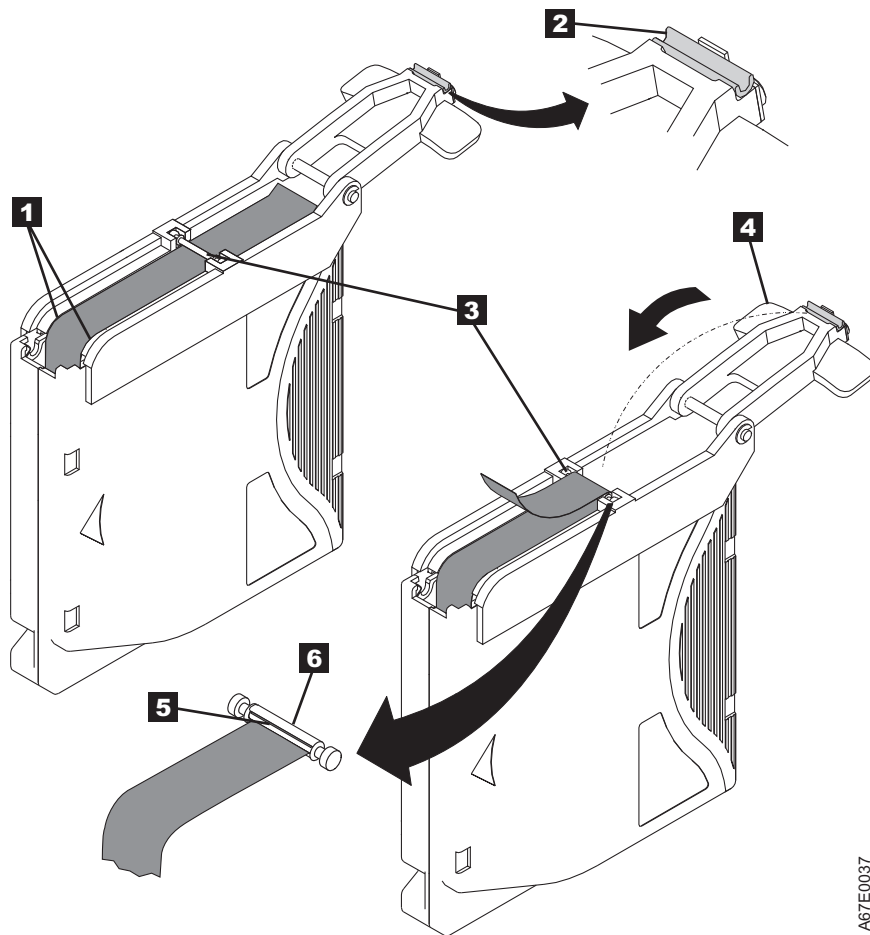

Figure 157. Attaching the leader pin to the tape
7. Position the tape in the alignment groove of the leader pin attach tool (see **1** in Figure 157 on page 176).
8. Place a new C-clip into the retention groove **2** (Figure 157 on page 176) on the leader pin attachment tool and make sure that the clip's open side faces up.
9. Place the leader pin (from step 6) into the cavity **3** (Figure 157 on page 176) of the leader pin attach tool.
10. Fold the tape over the leader pin and hold it with your fingers (see Figure 157 on page 176).